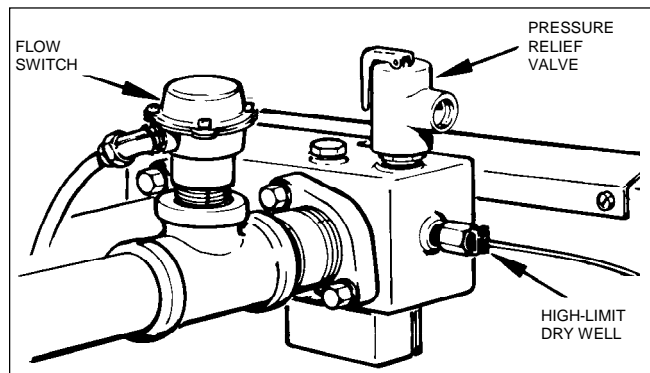

Figure 26. Pressure Relief Valve.
2. Make sure the pressure relief valve (see Figure 26) has its outlet piped to a drain or floor sink. Pay special attention to relief valve settings in installations where the boiler is located on the ground floor of a tall building, or where the operating temperature of the boiler is above 210°F (99°C). In both cases, the static pressure of the system is raised. This would bring raw water into the system. The factory will furnish a 75 psi (516.8 kPa) setting unless a special setting is ordered.